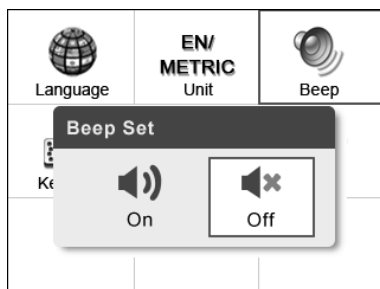

Figure 3-6
- 2) From **Beep Set** menu, use the **LEFT/RIGHT** scroll button to select ON or OFF to turn on/off the beep. (Figure 3-6)